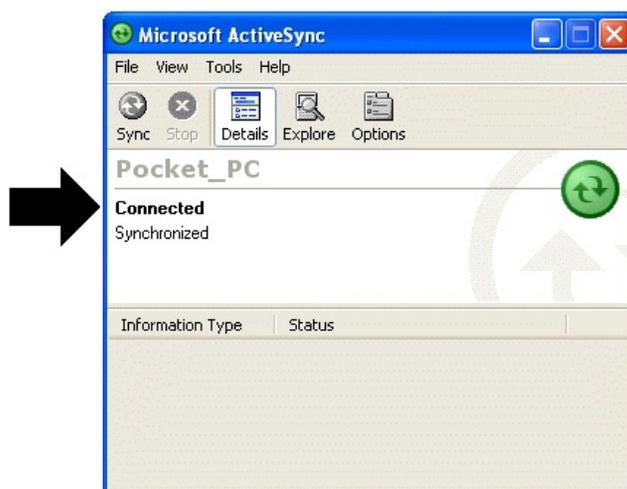

Figure 59. Connection Established.
- 5) Continue with installation as directed. At the end of the wizard, the ActiveSync dialog will indicate the Micro-UF6 computer is **Connected** (Fig. 59). If ActiveSync cannot connect to the Micro-UF6, see the troubleshooting steps in Section 7.8.